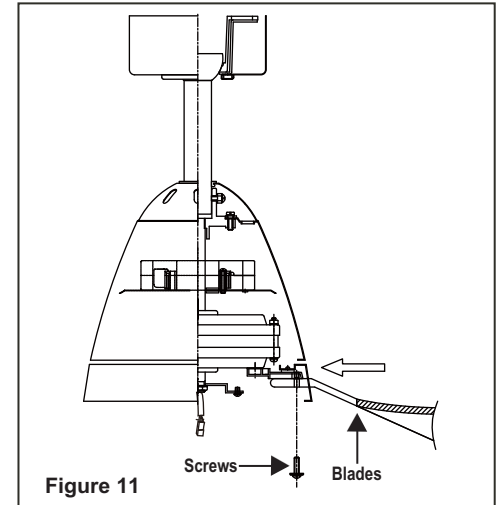

Figure 11
Step 1. Insert the blade through the slot in the housing. Align the holes in the blade and the fan motor assembly and secure with the screw and rubber washer. (Fig. 11)